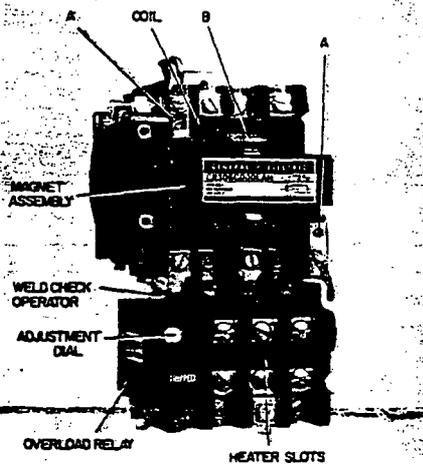

Figure 1. Typical 300-Line magnetic starter
2. Press against coil while pulling up slightly on coil retainers (A-Figure 1) and move retainers away from coil.
4. Withdraw spring clip (B-Figure 1) and remove armature from movable arm.